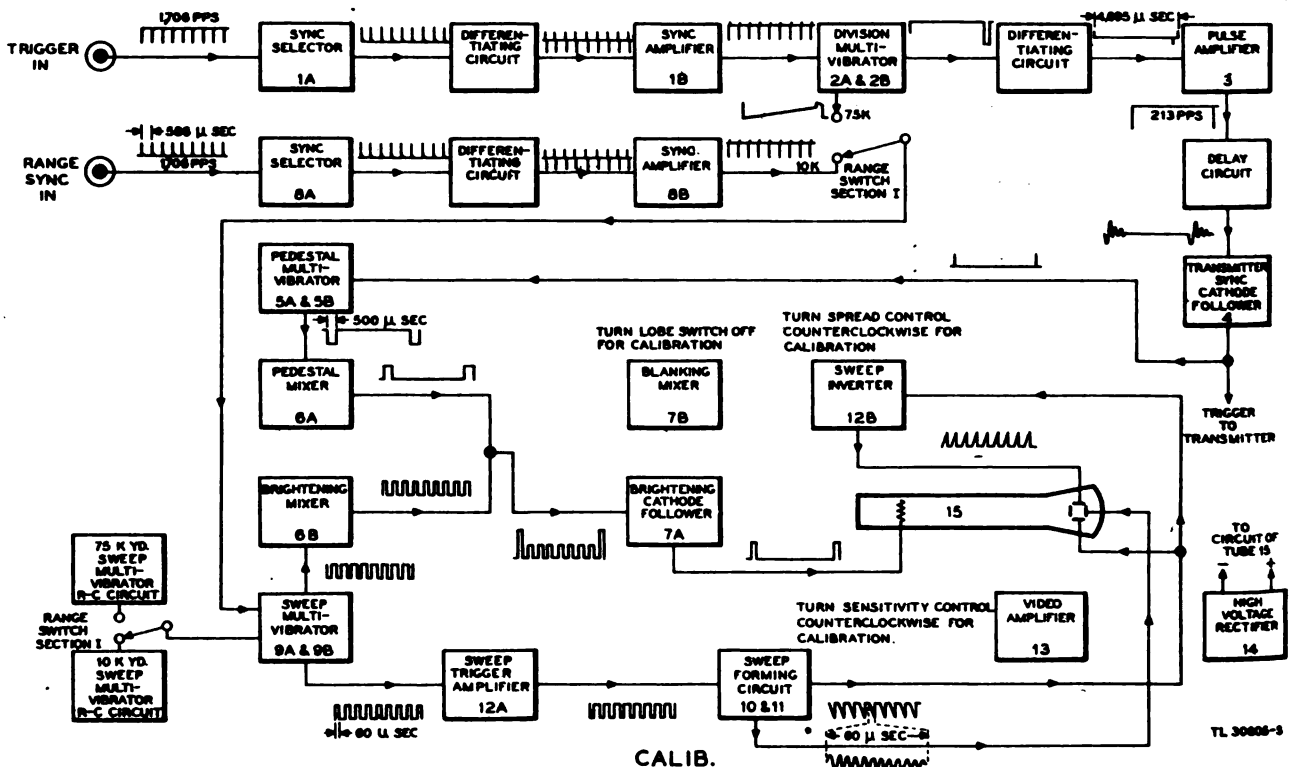

Figure 36. Control unit, block diagram of CALIB. connections.
### 32. CALIBRATION OF 10 K YD. SWEEP (figs. 36 and 37).
The range switch wiring is complex. It is therefore desirable to present an over-all picture (fig. 36) in block diagram form of the circuit relationships when the range switch is turned to the CALIB. position. This is the position used to adjust the duration of the 10,000-yard sweep to 60 microseconds.
**c.** To avoid complicating the display tube screen during the calibration, video signals are kept off the screen by turning the SENSITIVITY control down. If a lobe-switching antenna is used, the lobe switch is turned off and the SPREAD control turned down for the same reason. These conditions are shown by the absence of the corresponding signal lines in figure 36.
b. To avoid complicating the display tube screen during the 75 K YD. calibration, the same conditions are set up as are described in paragraph 32c and illustrated in figure 36.